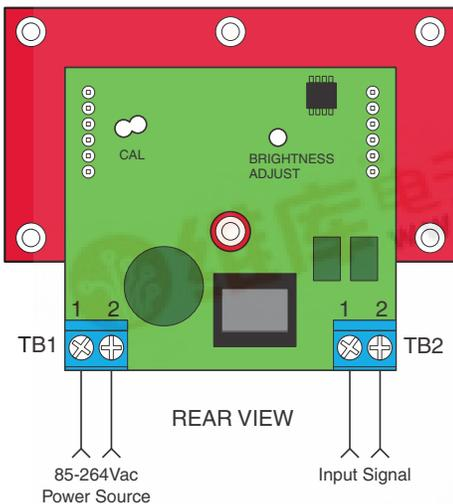

Figure 1. DMU-30DCV wiring diagram
- 3. Power Supply Polarity, Fusing, and Grounding:** The operating-supply terminals (TB1-1 and TB1-2) on DMU-30DCV voltmeters are not polarity sensitive, that is, they have no "AC LO" or "AC HI" designations. These units do not include or require a connection to earth/chassis ground. Refer to Figure 1 for a typical wiring diagram.